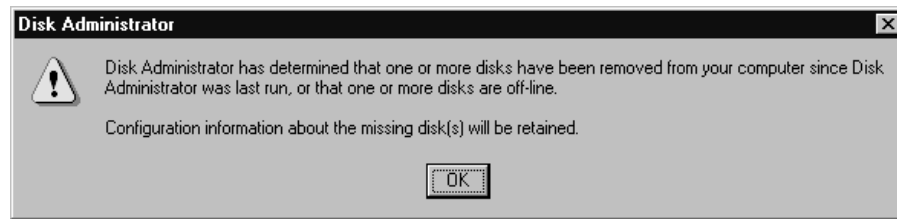

Figure 136. Disk Administrator information dialog
2. WINDISK is started. It takes longer than normal to start (and there is a particularly long pause at the 100% mark) and then reports the message shown in Figure 136.